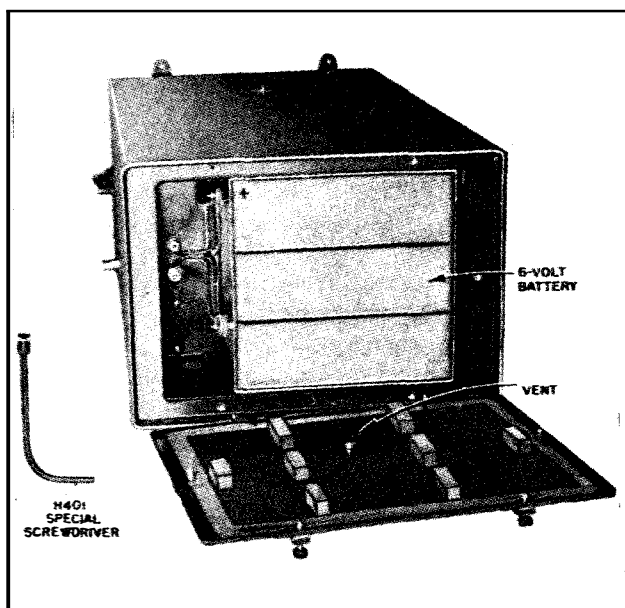
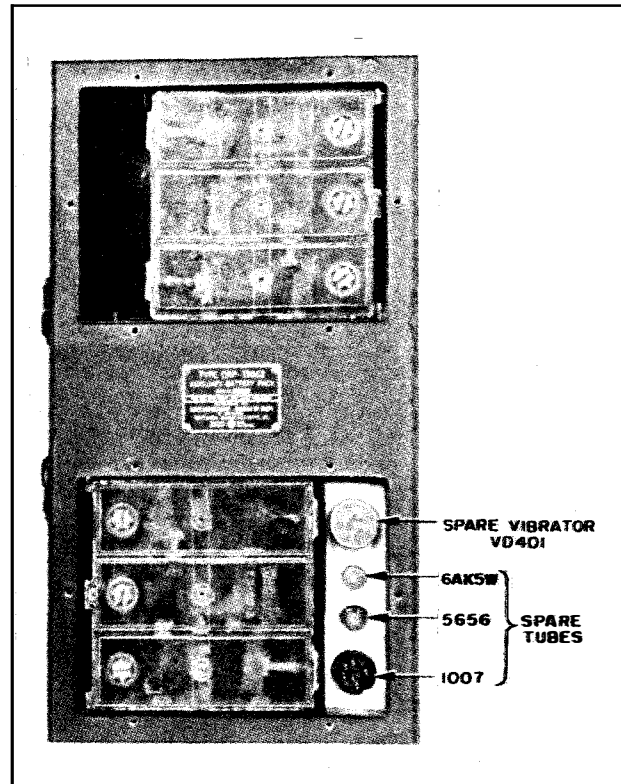

Figure 5-1.—Transmitter-Receiver Battery Compartment.
Figure 5-2.—Auxiliary Battery Pack Compartments.
(1) Loosen the six screws securing the Transmitter-Receiver battery compartment cover with the special screwdriver (H401) clipped to the case, and remove the cover (see figure 5-1). Tilt the Transmitter-Receiver until the battery slides out into the hand, then remove the plug connections from the battery terminals by pulling them straight out. Do not pull on the wires but grasp the plugs themselves.
(2) Using the special screwdriver or a coin, loosen the six screws securing one of the Auxiliary Battery Pack compartment covers. Remove the cover and tilt the pack forward until the battery slides out into the hand (see figure 5-2).
(3) Insert the plug connections into the replacement battery being careful to observe the correct polarity. Both plugs will fit snugly when properly inserted. If polarity is reversed, one plug will fit loosely and the other will not fit at all.
(4) Insert the replacement battery in the Transmitter-Receiver compartment as shown in figure 5-1.
All procedures grouped under this heading require removal of the Transmitter-Receiver from its case. To do this, using the special screwdriver (H401, figure 5-1), loosen the four knurled screws at the top and bottom of the control panel and pull the unit straight out. The battery connections are of the knife-switch type which automatically break as the unit is removed and make as it is replaced. Handle the Transmitter-Receiver with special care when out of the case, and place it on a flat surface for maintenance work. When replacing the unit in its case, make sure that the knurled screws are taken up tight enough to make a waterproof seal.
One spare tube of each field-replaceable type (1007, 5656, and 6AK5W) is carried in the Auxiliary Battery Pack (see figure 5-2).